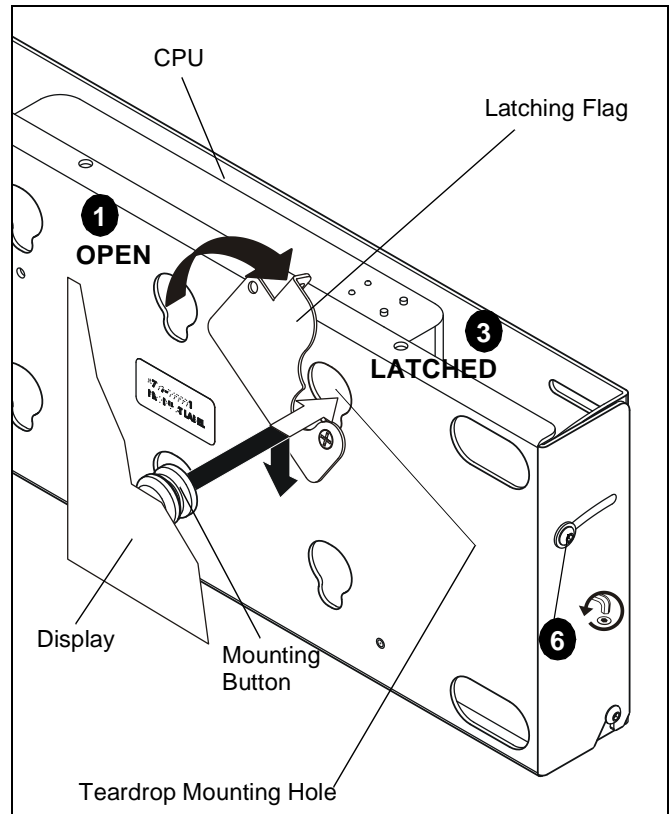

Figure 7
1. Move latching flag to the **OPEN** position. (See Figure 7)
2. Lower display until the recessed area of all six mounting buttons is seated in the lower area of teardrop mounting holes. (See Figure 7)
3. Move latching flag to the **LATCHED** position to secure display to mounting bracket. (See Figure 7)
4. Insert padlock or 10-24 x 1/2" security screw and 10-24 nylock nut (F) into latching flag to secure flag, if desired.
6. Loosen the one button head or button head security screw at each end of the bracket and adjust the front bracket with display to the desired angle. (See Figure 7)